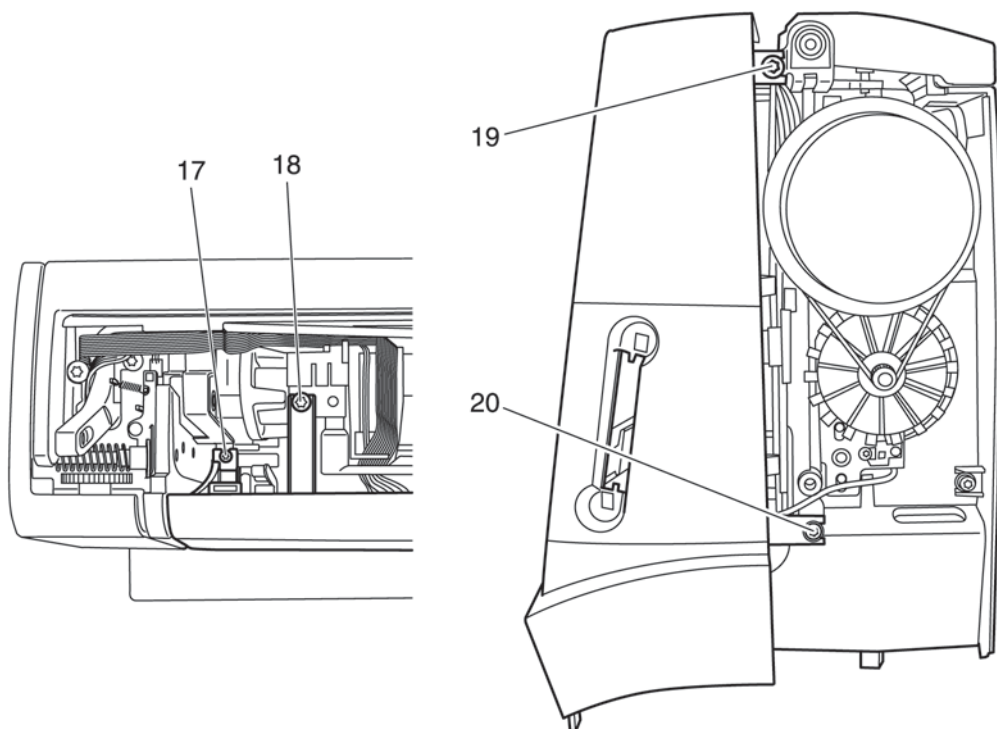

Fig. 31e
- Loosen the four screws 17 to 20 (fig. 31e)